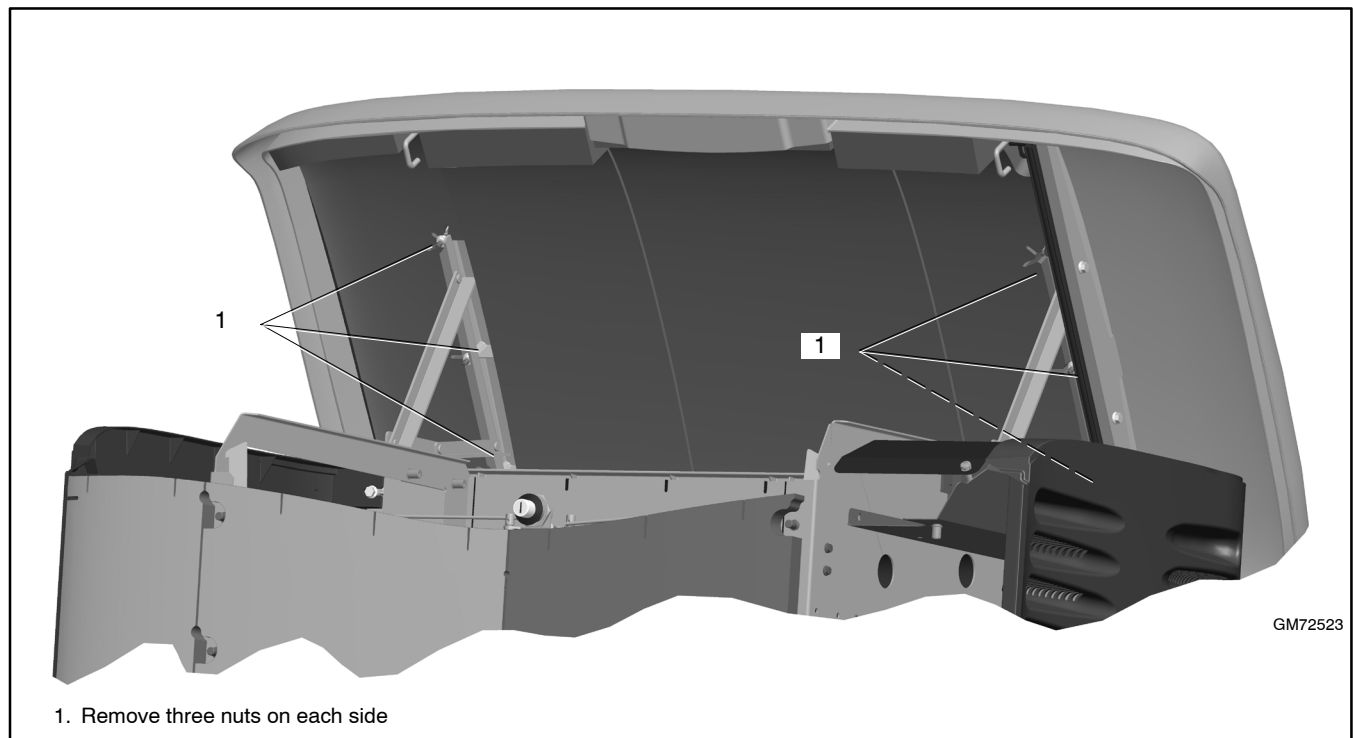

Figure 6-2 Roof Removal
3. Remove 6 nuts and remove the roof. See Figure 6-2.